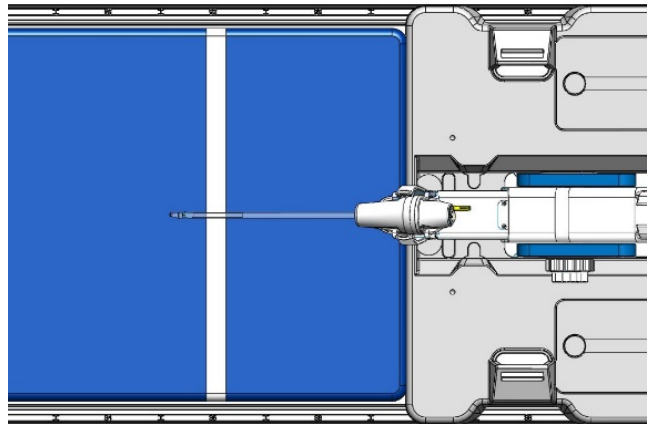

Figure 17: Centering and aligning the coils with the prostate
2. Position the patient on the MRI bed in a head-first supine position so that their sagittal midline is centered from left to right on the MRI table, and their prostate is (*Figure 17 [Your configuration might not match exactly as shown]*).